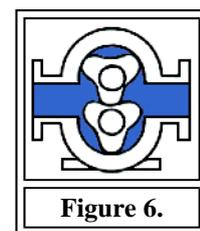

Figure 6.
**Lobe.** Fluid is carried between the rotor teeth and the pumping chamber. The rotor surfaces create continuous sealing. Both gears are driven and are synchronized by timing gears. Rotors include bi-wing, tri-lobe, and multi-lobe configurations. Figure 6 is a tri-lobe pump.